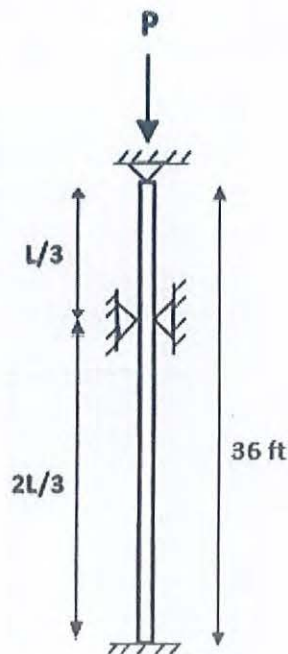

Figure 2
A column is made up by a W steel section having $F_y = 50$ ksi (**Figure 2**). The top and bottom supports of the column are pinned and fixed, respectively. Along the strong axis direction, lateral pinned support is also provided as shown in the figure. Calculate the design compressive load carrying capacity (P) of the column. [15]